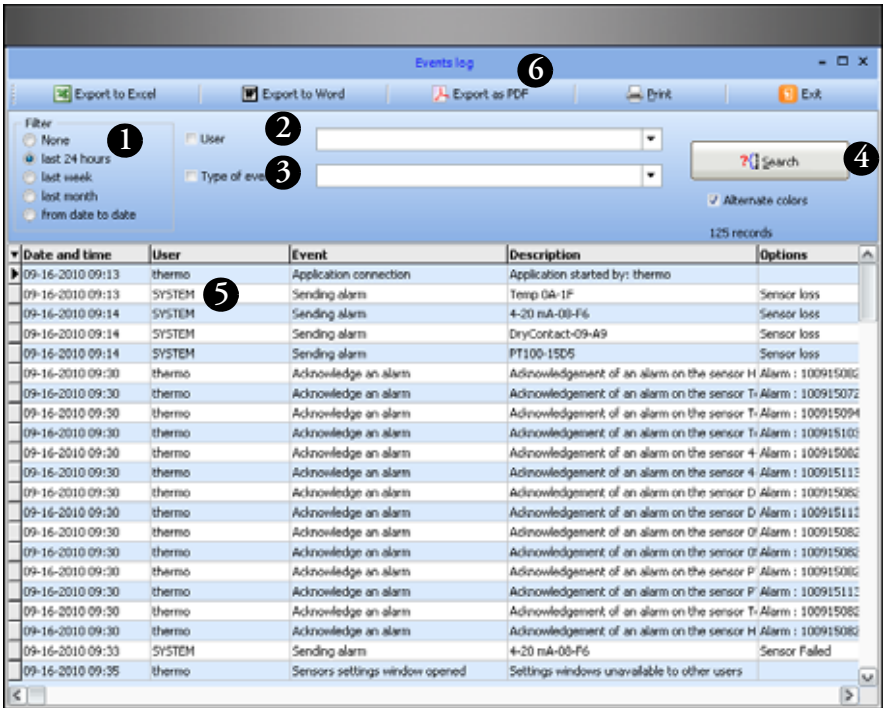

Figure 112. Event log screen
3. You may filter the report to limit the covered time period (#1 in Figure 112), focus on a particular user (#2), and/or sort by event type and action (#3).